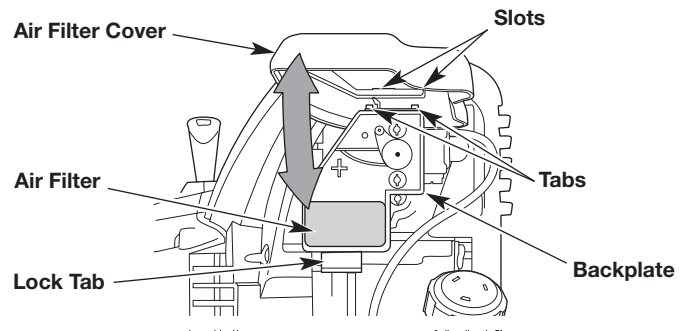

Fig. 25
1. Open the air filter cover: press in the lock tab and swing the air filter cover up (Fig. 25).
2. Remove the air filter (Fig. 25).
6. Reinstall the air filter (Fig. 25).
7. Close the air filter cover: insert the tabs on the backplate into the slots on the air filter cover. Swing the air filter cover down and press it closed until the lock tab snaps into place (Fig. 25).